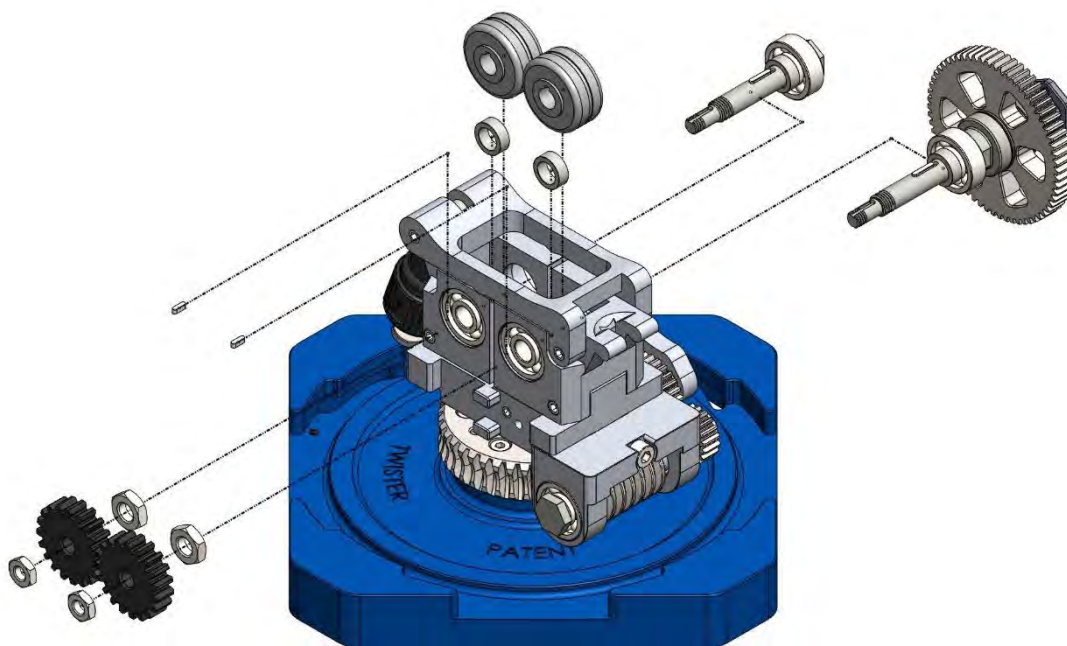

Figure 53
6. Carry out the steps previously described, you will find yourself in the situation shown in the figure below. The figure shows the set of disassembled elements with the relative assembly lines. Figure 53;